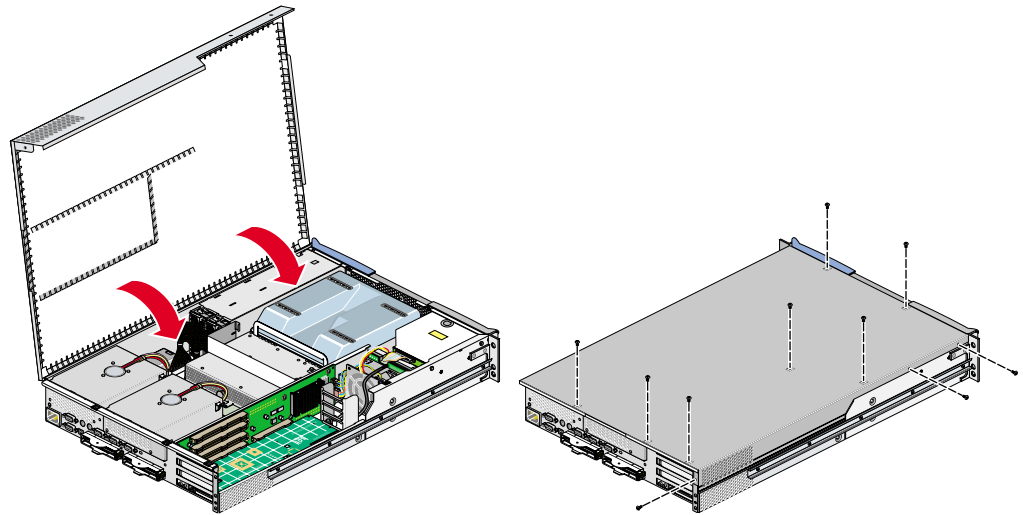

Figure 6 Closing Cover
11. Close the cover by performing the following steps (see Figure 6):